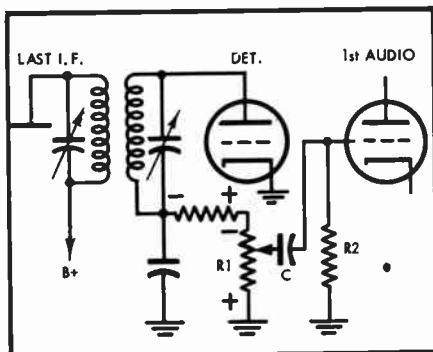

Fig. 1
A. Figure 1 shows a typical volume control circuit of an AM radio receiver. The potentiometer, R_1 , is a portion of the diode load and is therefore carrying a steady